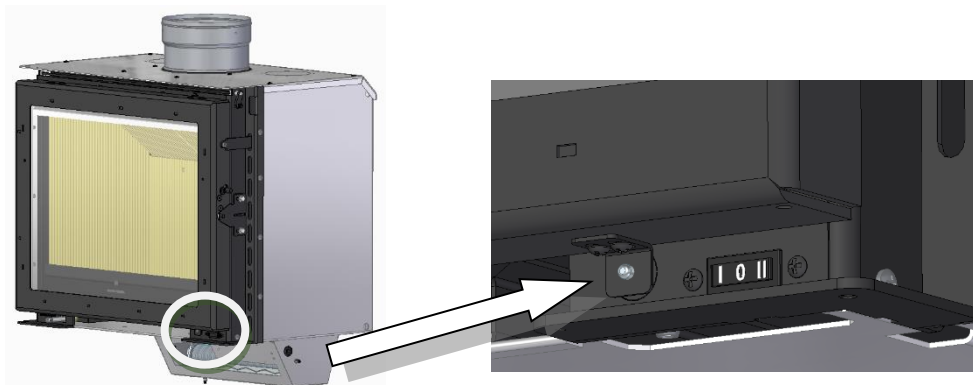

Figure 55 – Door handle adjustment, micro-switch actuation
d. After placing the components in the equipment, you must adjust the switch that is under the door, so that the door after closing the switch activates the micro-switch, see Figure 55.